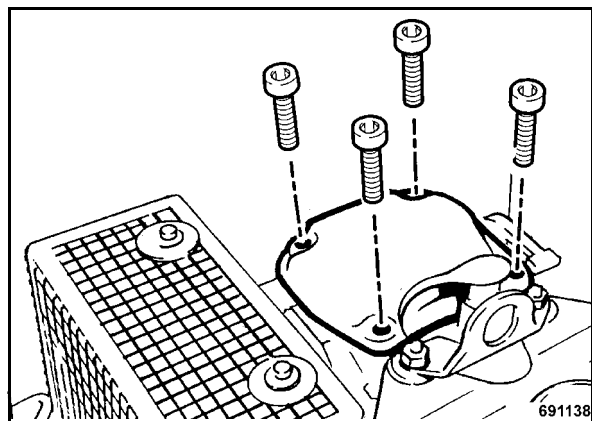

Fig. 57
- Disassemble the valve cover (Fig. 57).